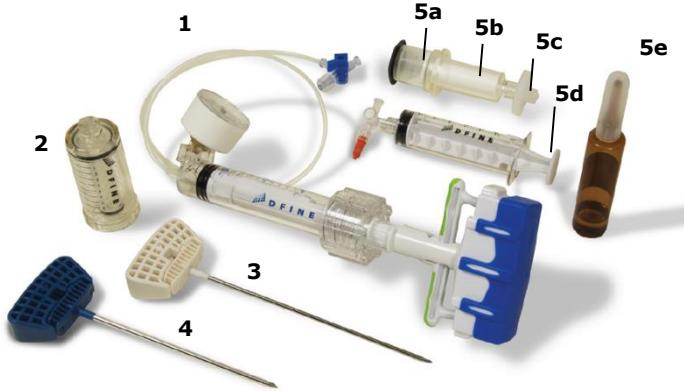

Figure 1. StabiIT VP Vertebroplasty System
The StabiIT VP Vertebroplasty System is a system for the controlled delivery of StabiIT Bone Cement in the treatment of vertebral compression fractures. The StabiIT VP Vertebroplasty System consists of five (5) components (Figure 1).